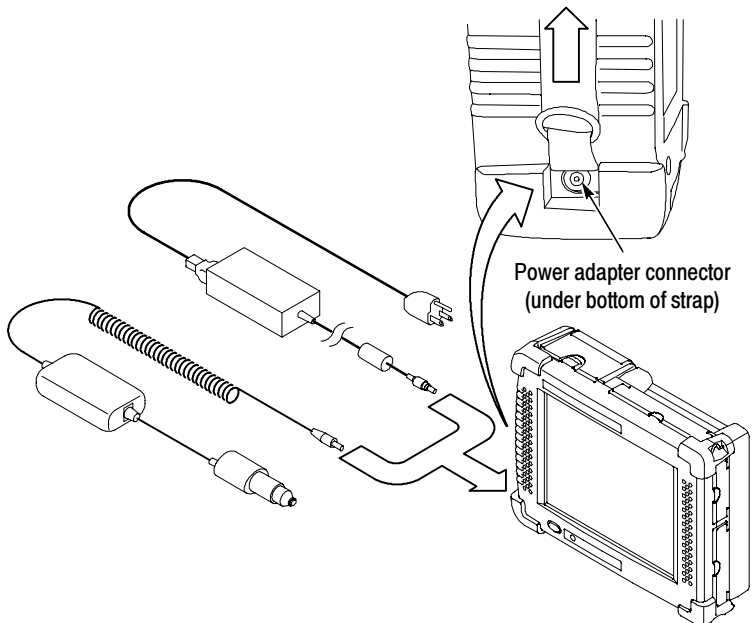

Figure 1-8: External power supplies
3. Connect the Desktop power supply as shown in Figure 1-8.
To recharge NetTek Analyzer Platform batteries, or power the NetTek Analyzer Platform from AC mains or DC vehicle voltage, connect the Desktop Power Supply or the In-Vehicle Adapter to the NetTek Analyzer Platform as shown in Figure 1-8. The Desktop Power Supply operates from 110 to 240 VAC mains.